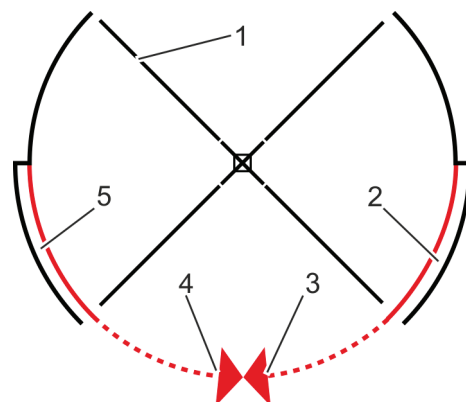

Fig. 42 Locking night shield elements (four wings)
Enter the revolving door (Fig. 42) and turn the wings (Fig. 42/1) manually until you have reached the night shield (Fig. 42/3 + 4).
4. Unlock the night shield elements (Fig. 42/3+4) in the side pockets (Fig. 42/2 + 5) with the square key.
5. Pull the night shield elements (Fig. 42/3 + 4) out of the side pockets (Fig. 42/2 + 5) and into the entrance area until the entrance is closed.
6. Lock the night shield elements (Fig. 42/3 + 4) with the square key.